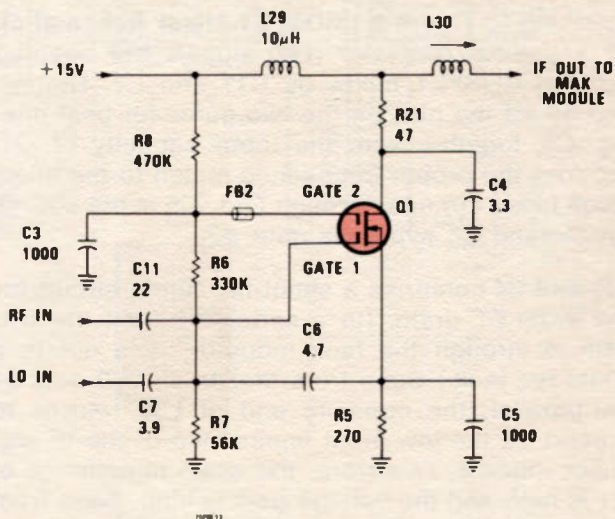

Figure 6—MOSFET Mixer
Referring to Figure 6 (MOSFET Mixer Schematic), RF and local oscillator (LO) signals are coupled into the MOSFET mixer by C11 and C7. R6, R7, and R8 set the bias on the two gates for best mixing. C6, together with the input capacity of Q1, provides the proper impedance match to the interstage tuned circuits, through C11. C5 is the source bypass and C3 bypasses gate #2.